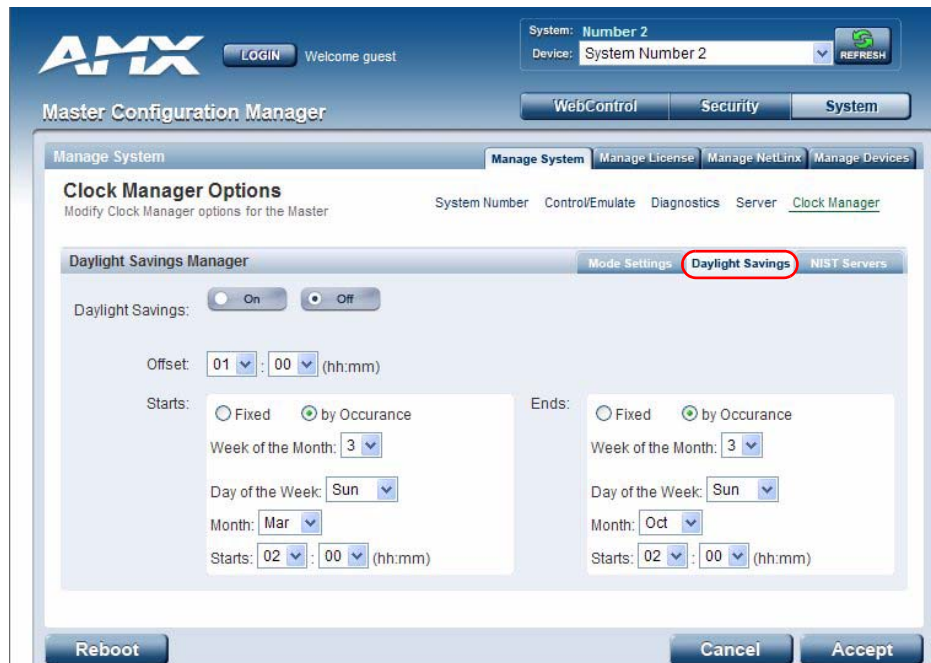

FIG. 60 Clock Manager Options - Daylight Savings tab
1. In the *Daylight Savings* tab (FIG. 60), enable Daylight Savings mode by clicking the **On** button.